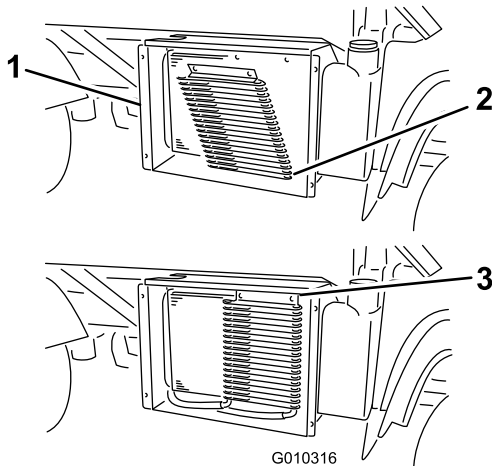

Figure 53
6. If equipped, rotate the latches and pivot the oil cooler away from the radiator (**Figure 53**).